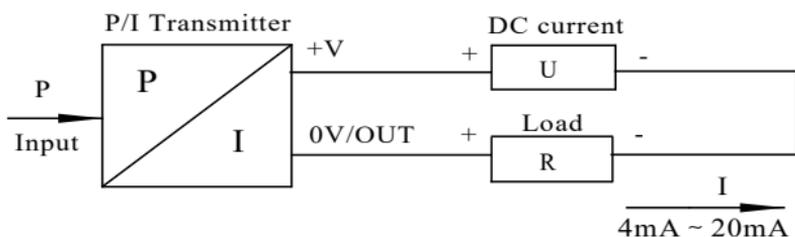

Fig 3
4.1.1 Electrical connection method of transmitter with 2-wire 4mA~20mA DC output, to fig 3.